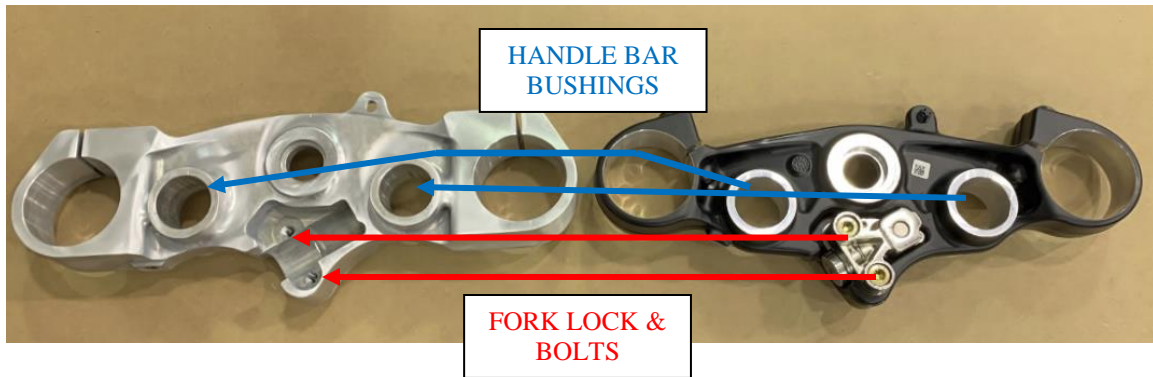

Figure 19: Install the handlebar bushings, fork lock, and the clutch cable guide in the raked top tree.
1. Remove the handlebar bushings from the OEM top triple tree and install them in the new top triple tree. These can be pried out of the old tree and pressed in the new tree by hand. Remove the OEM fork lock and install it in the raked tree. See Figure 19.